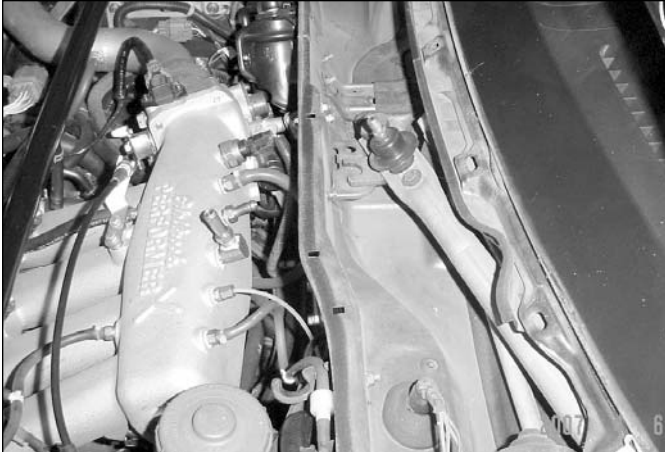

Figure 3 - Cowl Cover Removed
- To mount the regulator in this location you will need to remove the cowl cover (**See Fig 3**).